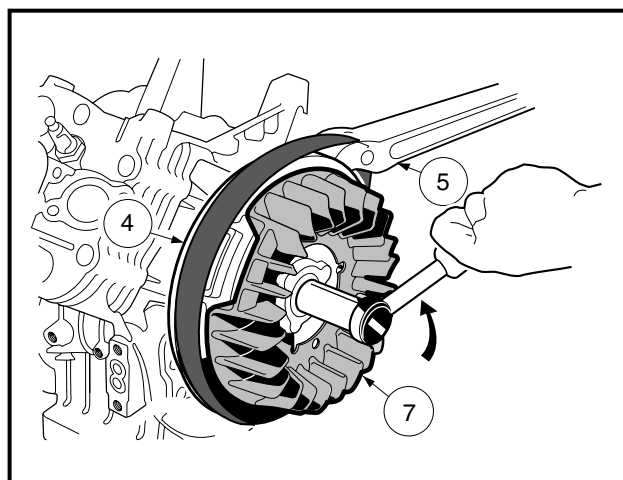

Figure 13-8 Flywheel Nut Removal
4. Hold the flywheel (4), **not the fan** (7), with a strap wrench (5) and, use a 25 mm socket to remove the flywheel nut (and flat washer) by turning it counterclockwise (**Figure 13-8, Page 13-7**). **See following CAUTION.**